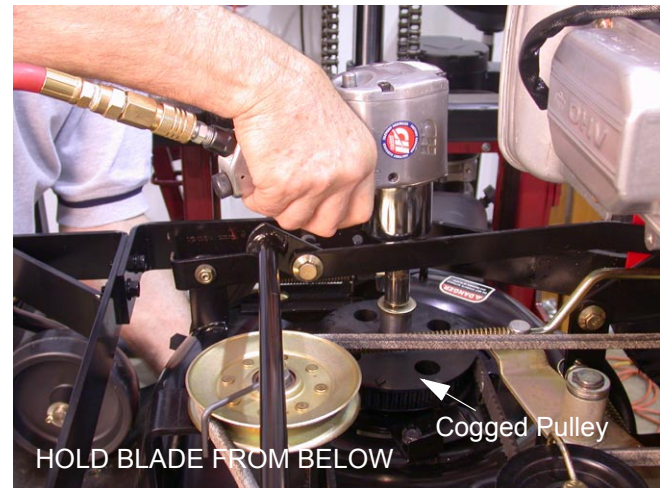

Figure 38
- 12.5. Using a shop rag to protect your hand, hold the blade secure while removing the flange lock screw that secures the spindle shaft with an air gun and 5/8 inch socket. See Figure 38.